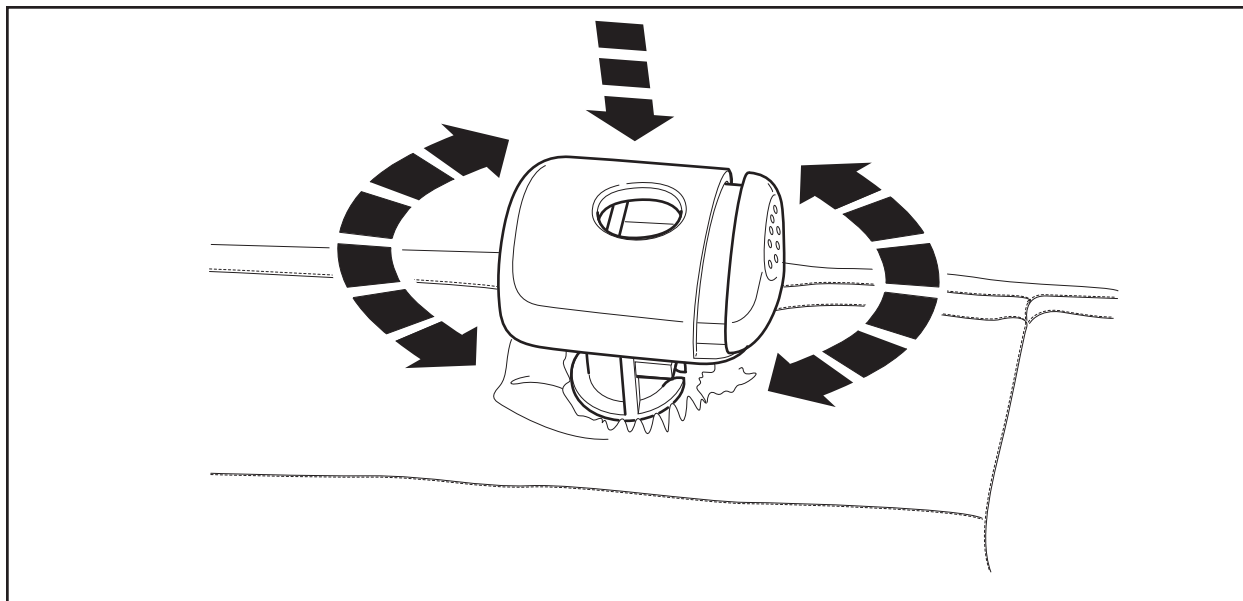

FIGURE 20
38. To install the **new** head restraint guide sleeves, slide the sleeves through the backrest trim cover and the foam pad. Using a back and forth motion while twisting, apply downward pressure until the sleeve is seated onto the **new** backrest frame as far as it will go. See Figure 20.